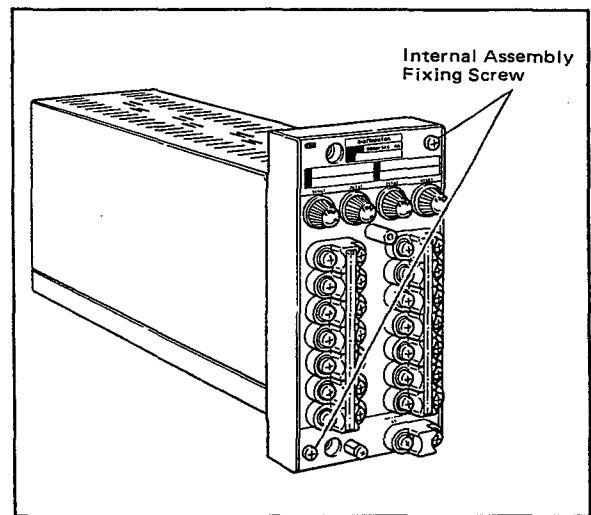

Figure 6-4. Removing the Internal Assembly (SDBU-24□).
2. Remove two internal assembly fixing screws located on the front panel top right and bottom left (see Figure 6-4), and draw out the internal assembly toward you.